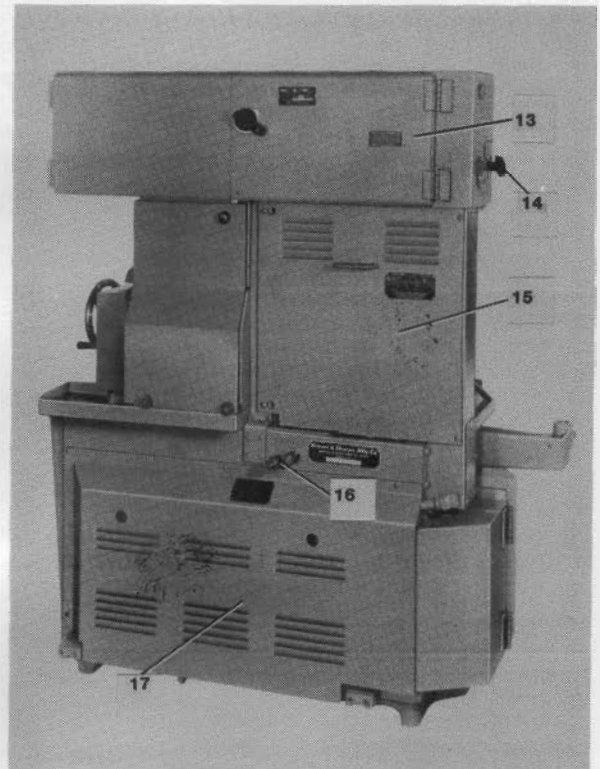
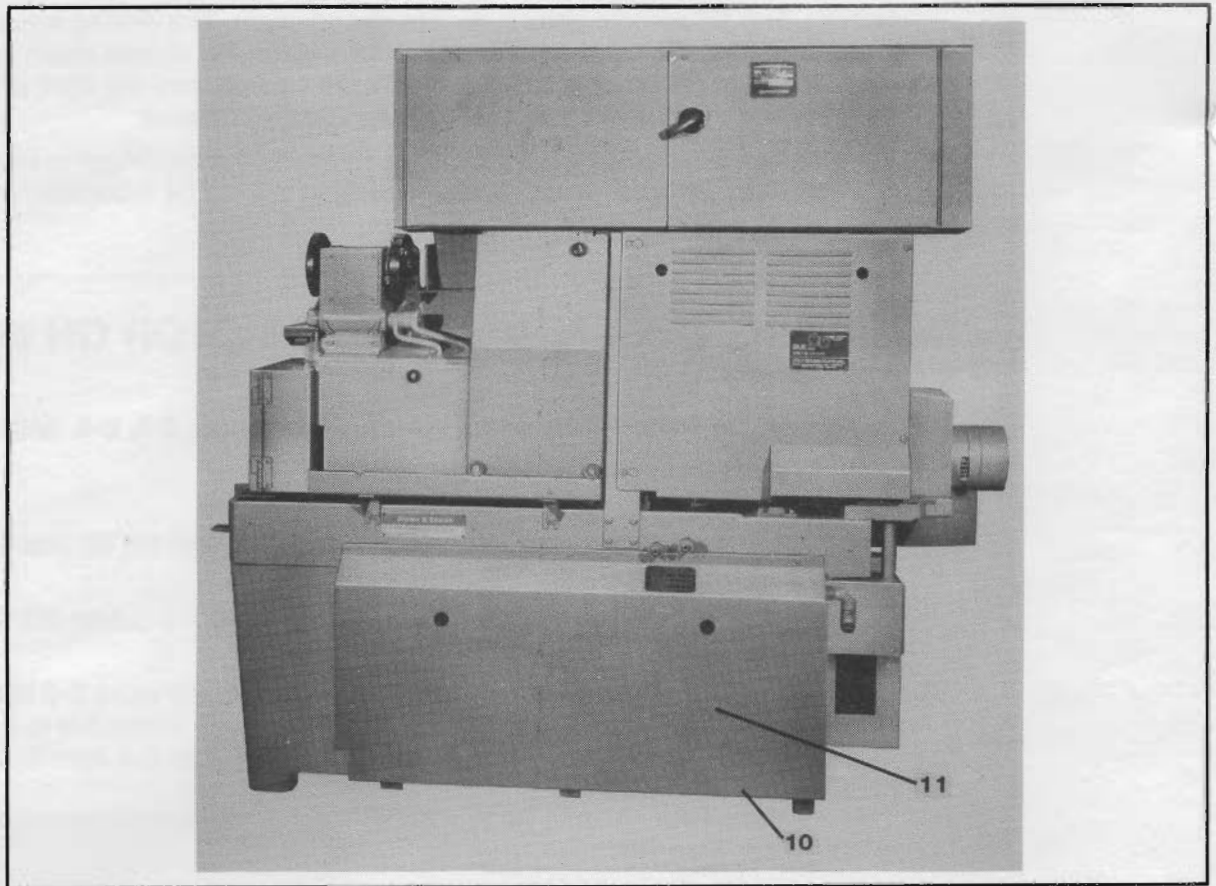
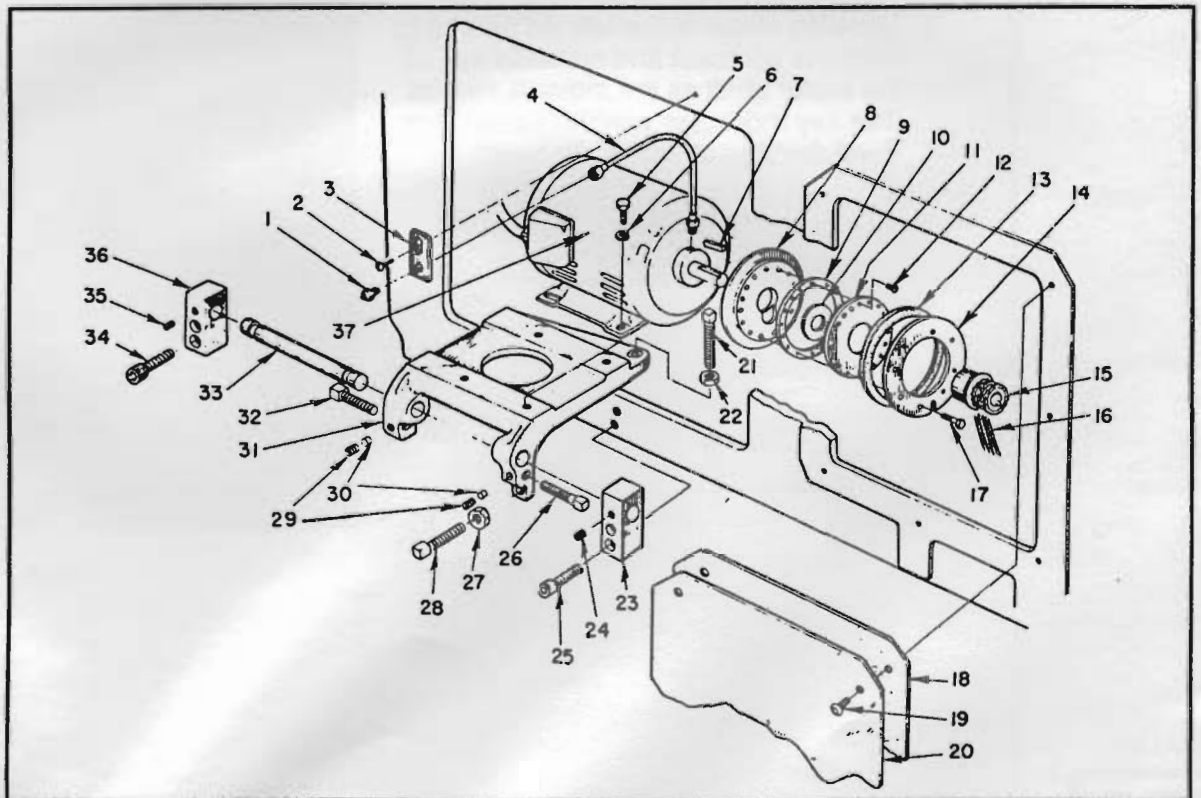
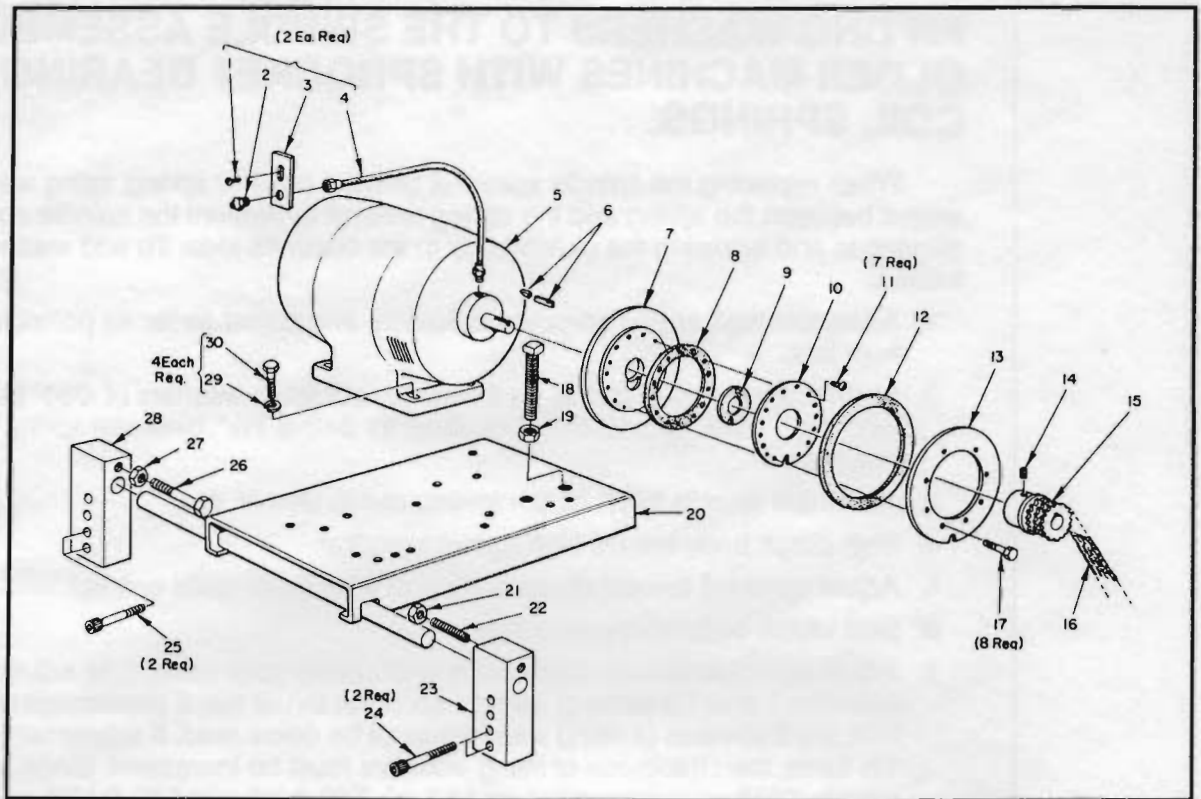

Figure 2-3
Figure 2-4
Figure 2-5
Figure 2-6
To remove the spindle drive motor refer to Figures 2-3, 2-4, 2-5, and 2-6 and proceed as follows:
2. Remove the base guard - #00 machine (Figure 2-3 Item 17) #2 and 3 machines (Figure 2-4 Item 10).
3. Remove the base opening plate - #00 machine (Figure 2-5 Item 20) #2 and 3 machines (Figure 2-4 Item 11).
4. Remove the motor drive chain (Figure 2-5 Item 16) and (Figure 2-6 Item 16) by removing the connector link and lifting the chain off. An alternate method is to loosen the chain by backing off the motor bracket adjusting screw (Figure 2-5 Item 21) and (Figure 2-6 Item 18).
5. Loosen the motor sprocket set screw (Figure 2-6 Item 14).
6. Remove the four spindle motor clamp bolts (Figure 2-5 Item 5) and (Figure 2-6 Item 30).
1. Turn the adjusting screws 00 machine (Figure 2-5 Items 21 and 28) 2 and 3 machine (Figure 2-6 Item 18). Chain must be taut.
3. Check to be sure the motor bracket adjusting screws, long, 00 machine (Figure 2-5 Item 21); 2 and 3 machine (Figure 2-6 Item 18), and adjusting screws, short, 00 machine (Figure 2-5 Items 26 and 32); 2 and 3 machine (Figure 2-6 Items 22 and 26) are tight and locked with set screws or nuts, 00 machine (Figure 2-5 Item 25) 2 and 3 machine (Figure 2-6 Items 21 and 27).